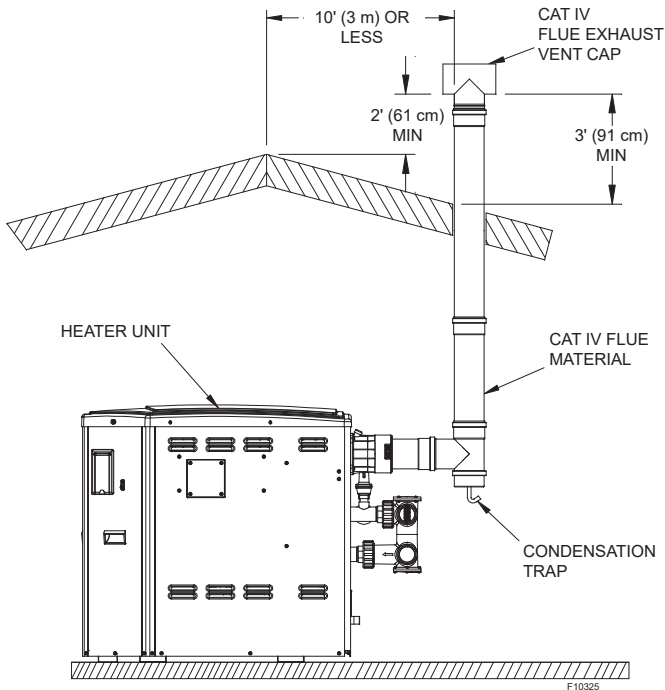

Figure 6. Vertical Venting
**CAUTION:** In general, the condensate piping from the appliance must have a downward slope of 1/4" per horizontal foot. Condensate drain traps must be primed with water to prevent gas flue leaks. Treatment kits should be checked at least once per year to ensure that the pH of the effluent remains 5.0 or higher, and the chips should be replenished as necessary. When replacing the chips, they should be no smaller than 3/4" to avoid blockage in the condensate piping. Figure 6 on page 14 is a visual guide only. Follow the manufacturer's instructions for the installation of the treatment kit and condensate drains.